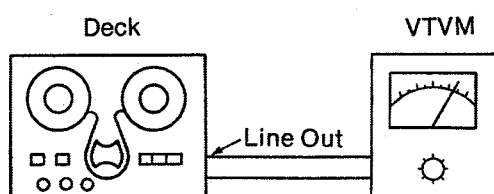

Fig. 29
- (1) Set the head selector to the 2-track position.
- (2) As shown in figure 29, connect a VTVM's to the line-output jacks.
- (3) Set to the 19cm/s tape speed.
- (4) Use 16 kHz position (for azimuth adjustment) in test tape QZZOF190EX.
- (1) In the condition shown in figure 29, playback test tape QZZOF190EX.
- (1) In the condition shown in figure 29, playback test tape QZZOF190EX, and adjust the tilt-adjustment screw (D) so that output becomes maximum.